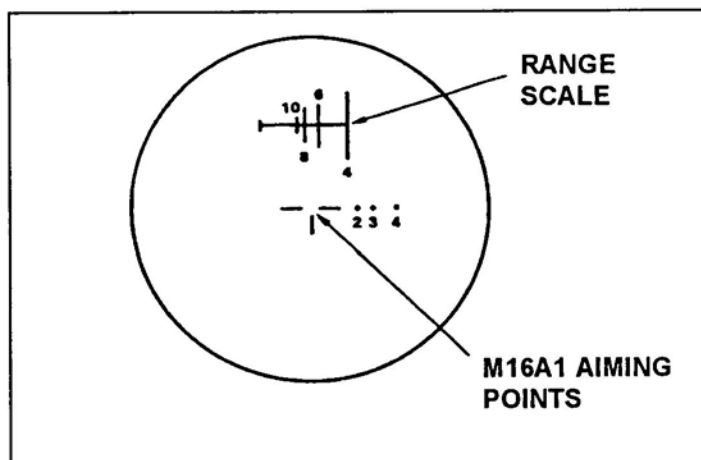

Figure 1. Sight reticle.
**NOTE:** Ensure the AN/PVS-4 has the proper sighting reticle (Figure 1).
2. Use the sight reticle. When used with the rifle, the AN/PVS-4 sight reticle consists of two parts (Figure 1).